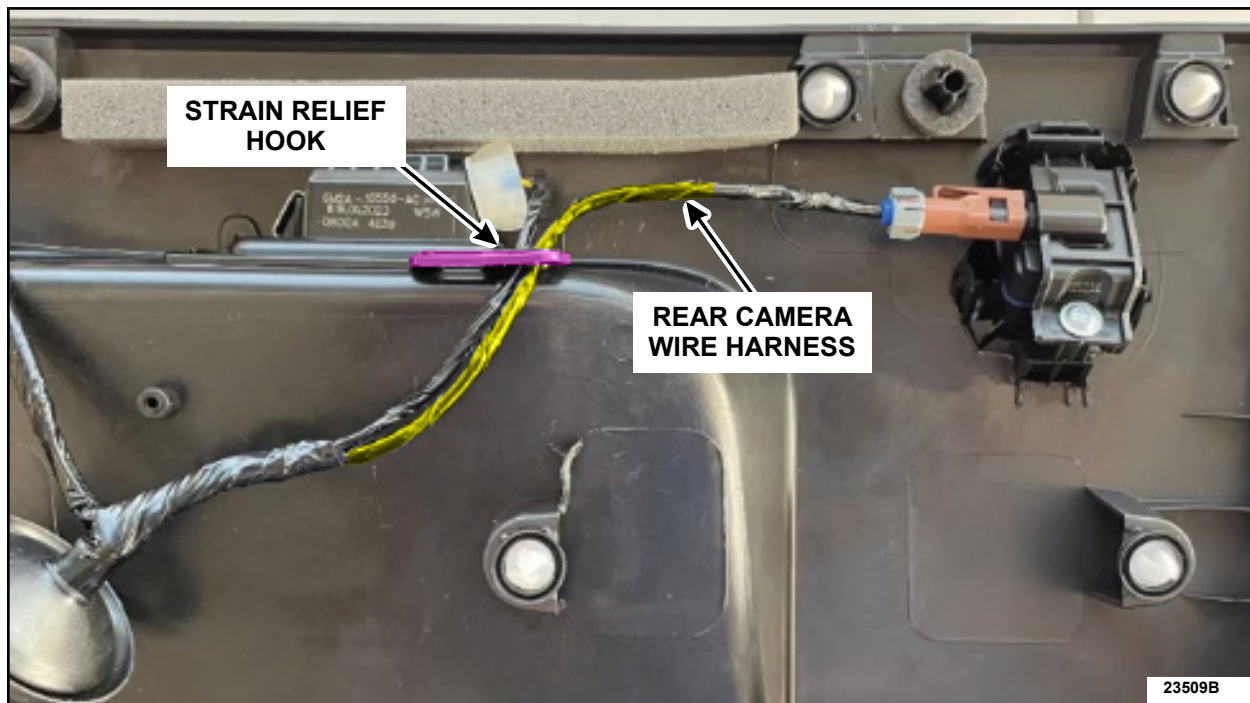

FIGURE 13
5. Route the rear camera harness into the strain relief hook. See Figure 13.